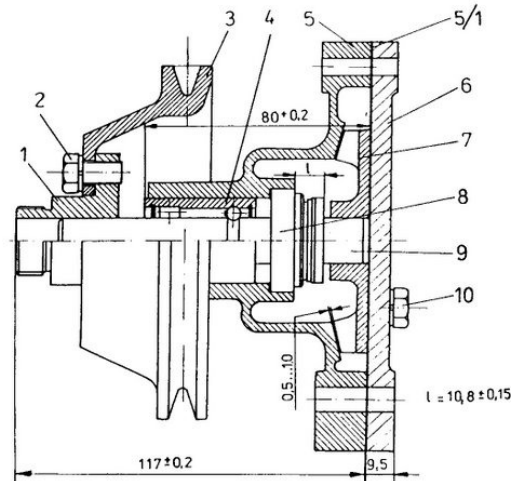

Fig. 37. Water pump with pulley
In the pump body (5, Fig. 37) is located a rotor shaft (9) together with a bearing (4). A ball bearing is filled with a special grease and is closed from both sides. It does not need any service. A sealing element (8) ensures the pump tightness from the rotor side. It is pressed into the pump body. Sealing element has a spring pressing it to the pump rotor (7). Such solution ensures a proper tightness. If there are any leakages it means that a sealing element is already worn or damaged. On the other end of a shaft is located a hub (1) to which is fixed a pulley (3) with a bolt (2) and a fan with visco clutch which is secured on the hub with nut with a left hand thread. It prevents loosening of nut during an engine operation.
- Press a sealing element (8, Fig. 37) into a pump body (12, Fig. 38) using a mandrel with diameter 45 mm and check a distance „l” (it should be about 10.8 mm) between a sealing element (8) and a seat edge.